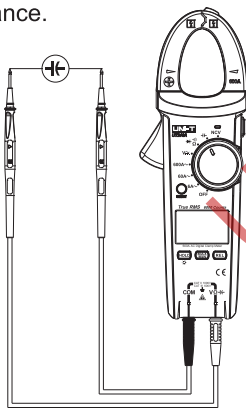

Figure 11
8. Capacitance measurement (See Figure 11)